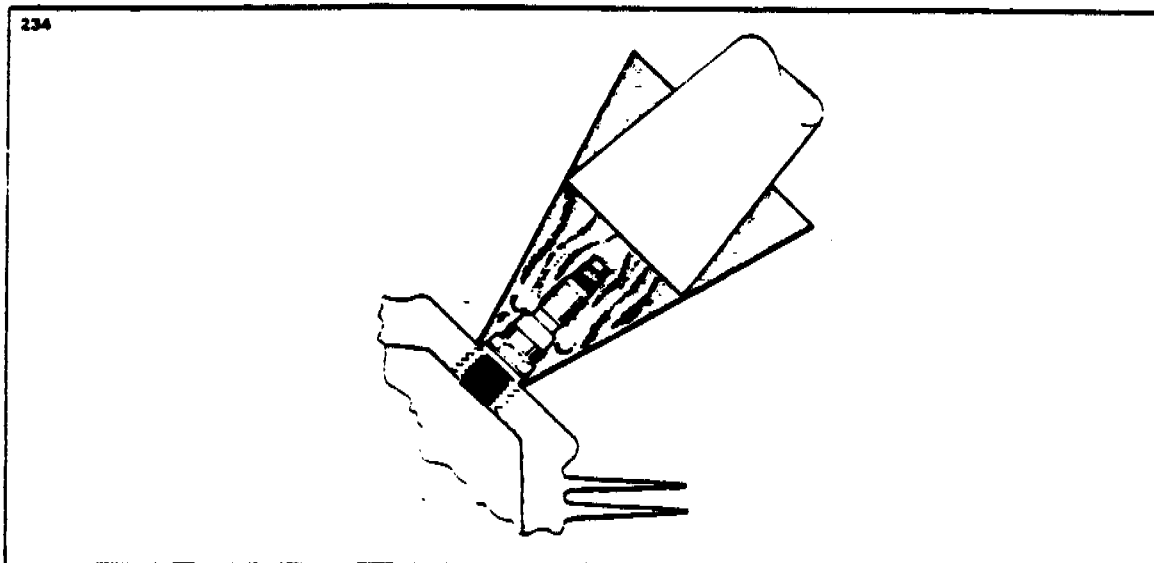

FIGURE 7B-15. REMOVAL OF SEIZED SPARK PLUG
- d. Removal of seized spark plugs in the cylinder may be accomplished by application of liquid carbon dioxide by a Conical metal funnel adapter with a hole at the apex just large enough to accommodate the funnel of a CO2 bottle. (Refer to Figure 7B-15.) When a seized spark plug cannot be removed by normal means, the funnel adapter is placed over and around the spark plug. Place the funnel of the CO2 bottle inside the funnel adapter and release the carbon dioxide to chill and contract the spark plug. Break the spark plug loose with a wrench. A warm cylinder head at the time the carbon dioxide is applied will aid in the removal of an excessively seized plug.